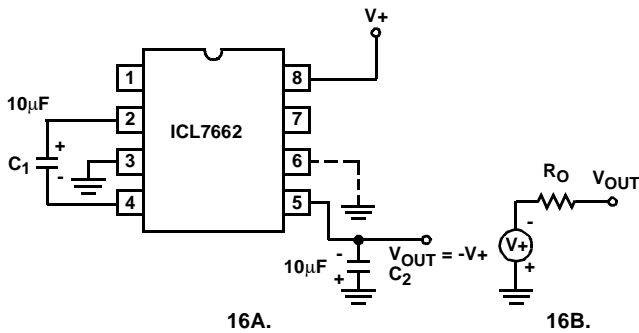

FIGURE 16. SIMPLE NEGATIVE CONVERTER AND ITS OUTPUT EQUIVALENT
The majority of applications will undoubtedly utilize the ICL7662 for generation of negative supply voltages. Figure 16 shows typical connections to provide a negative supply where a positive supply of $+4.5\text{V}$ to 20.0V is available. Keep in mind that pin 6 (LV) is tied to the supply negative (GND) for supply voltages below 10V.
ESR also affects the ripple voltage seen at the output. The total ripple is determined by 2V, A and B, as shown in Figure 16. Segment A is the voltage drop across the ESR of C₂ at the instant it goes from being charged by C₁ (current flowing into C₂) to being discharged through the load (current flowing out of C₂). The magnitude of this current change is 2 × I_{OUT}, hence the total drop is 2 × I_{OUT} × ESR C₂ V. Segment B is the voltage change across C₂ during time t₂, the half of the cycle when C₂ supplies current the load. The drop at B is I_{OUT} × t₂/C₂ V. The peak-to-peak ripple voltage is the sum of these voltage drops:
Figure 23 combines the functions shown in Figure 16 and Figure 22 to provide negative voltage conversion and positive voltage doubling simultaneously. This approach would be, for example, suitable for generating +9V and -5V from an existing +5V supply. In this instance capacitors C₁ and C₃ perform the pump and reservoir functions respectively for the generation of the negative voltage, while capacitors C₂ and C₄ are pump and reservoir respectively for the doubled positive voltage. There is a penalty in this configuration which combines both functions, however, in that the source impedances of the generated supplies will be somewhat higher due to the finite impedance of the common charge pump driver at pin 2 of the device.